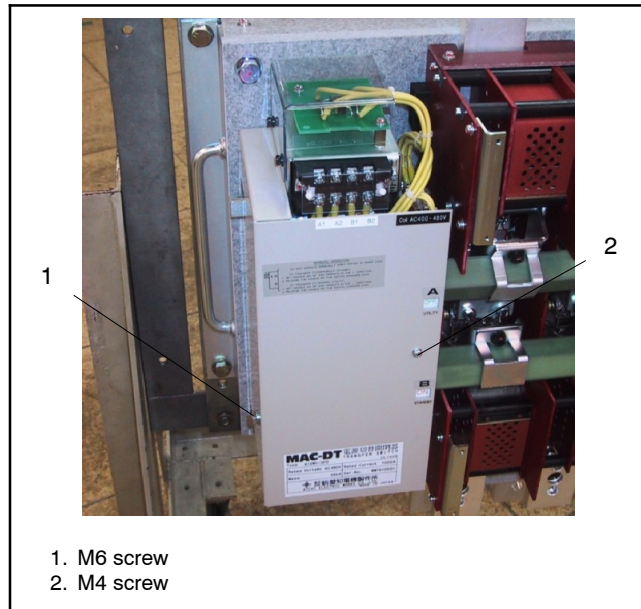

Figure 9-1 Mechanical Unit Cover
1. Remove the two screws securing the cover. See Figure 9-1.